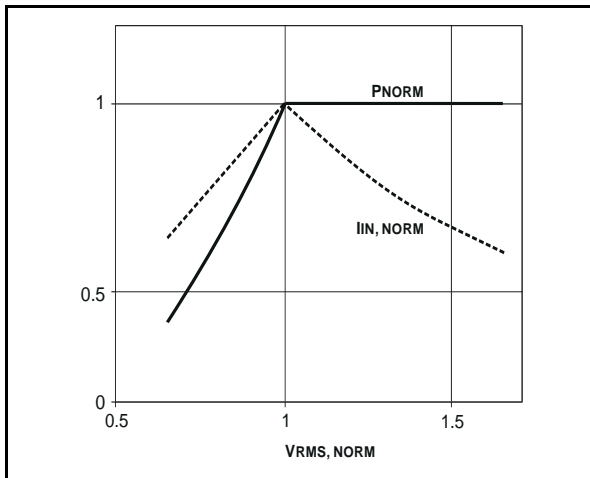

Figure 3. Power Limit and Maximum Input Current Values as a Function of Input Voltage (All Normalized)
As Figure 3 demonstrates, exact, and constant power limiting can be realized by the UC3854A/B high power factor controller ICs for the entire input voltage range. That is caused by the input voltage feedforward term in the multiplier equation, (2).